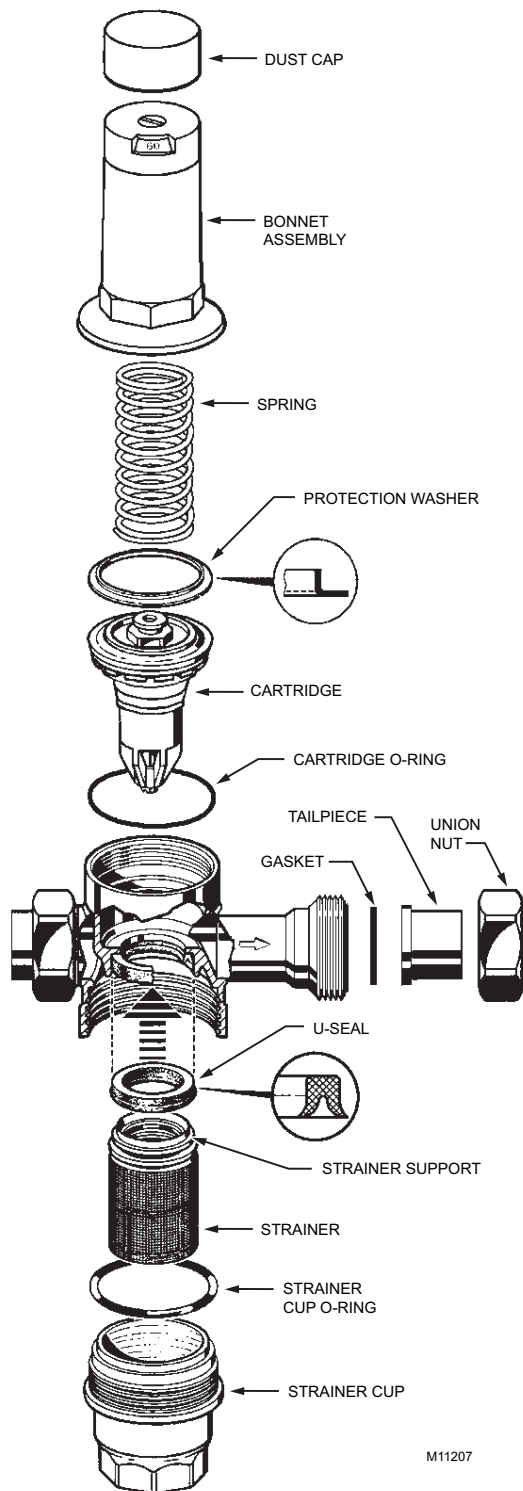

Fig. 7. Internal Parts.
8. Replace the U-seal by placing the U-seal on the strainer support and pushing the assembly into place. The U-seal open end must face the strainer support (See Fig. 7). Replace the strainer onto the strainer support.